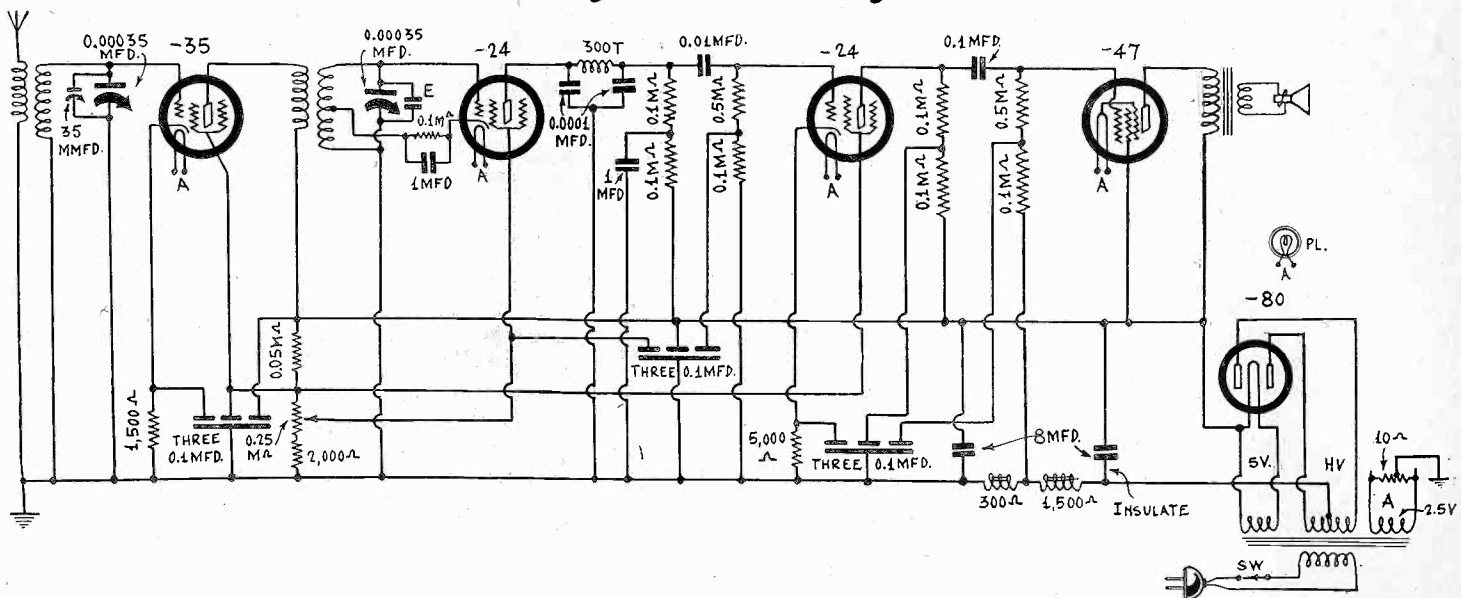

FIG. 1
THE problem of how to use a five-pin (UY) plug-in form for a regenerative detector may be solved as shown in Fig. 1.
Ordinarily a six-pin form would be needed, and such is virtually unobtainable. The six connections would be to r-f plate, B plus r-f, grid of detector, grid return of detector, plate of detector and load on detector plate (primary of a transformer or one end of a resistor). The fact that the tickler winding would not go directly to B plus makes the sixth connection necessary. A way out, but a poor one, would be to use an r-f choke coil in the r-f plate circuit, returning primary from one side of a stopping condenser to ground. The Fig. 1 method is better, as the right impedance for the r-f plate circuit is obtainable all the time.